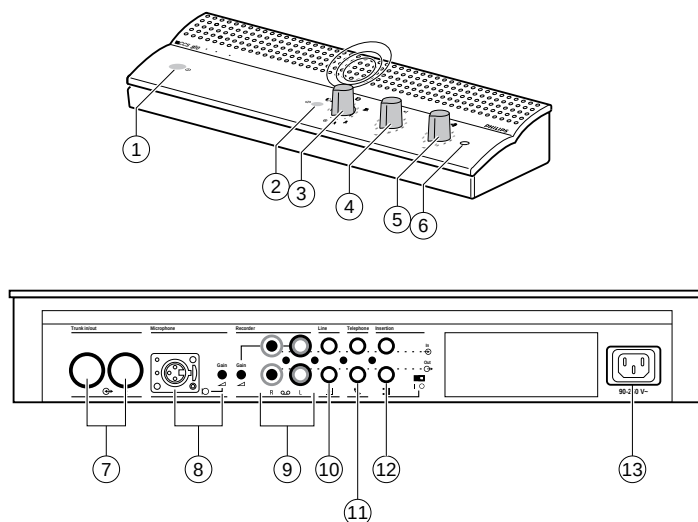

Fig. 1
- One Control and Power Supply Unit (CPSU) (Fig. 1).